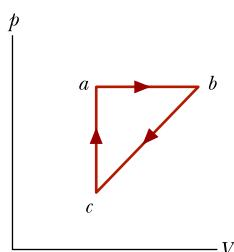

Figure 18.20 Problem 50.
**50 M GO** A lab sample of gas is taken through cycle *abca* shown in the *p*-*V* diagram of Fig. 18.20. The net work done is  $+1.2 \text{ J}$ . Along path *ab*, the change in the internal energy is  $+3.0 \text{ J}$  and the magnitude of the work done is  $5.0 \text{ J}$ . Along path *ca*, the energy transferred to the gas as heat is  $+2.5 \text{ J}$ . How much energy is transferred as heat along (a) path *ab* and (b) path *bc*?